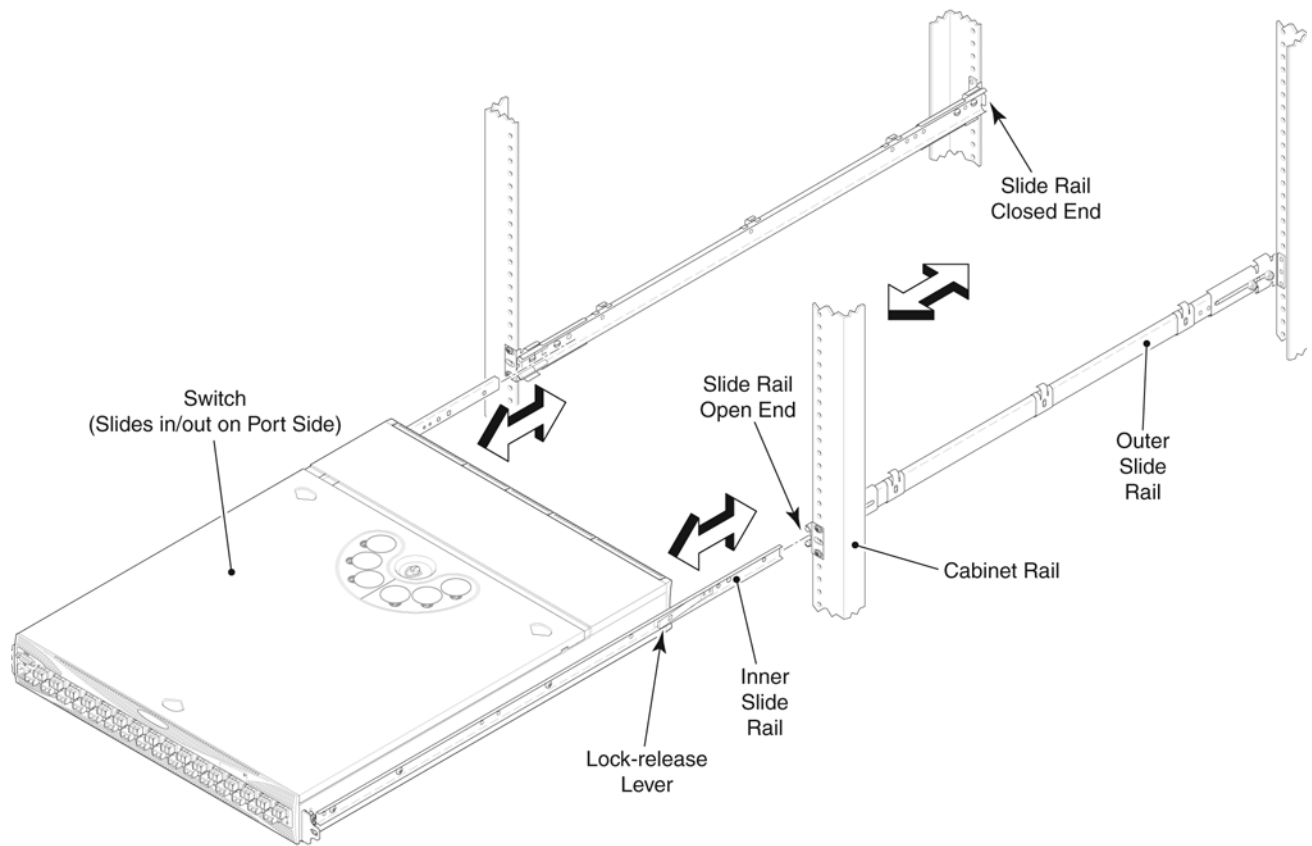

FIGURE 13 Inserting the switch
3. Position the switch next to the cabinet; align and insert the inner rails inside the outer rails (Figure 13).